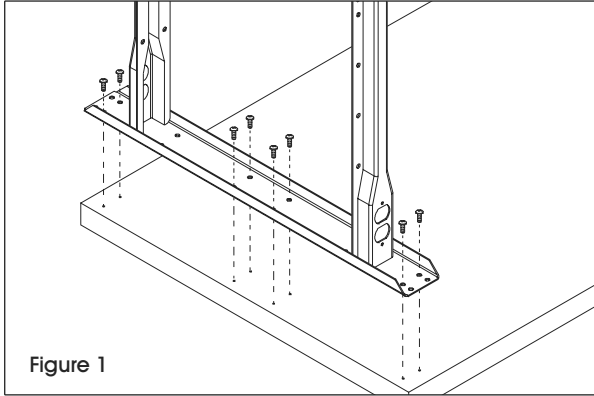

Figure 1
1. Using 16 wood screws, attach legs to the underside of the top (5) through pre-drilled holes. (See Figure 1)